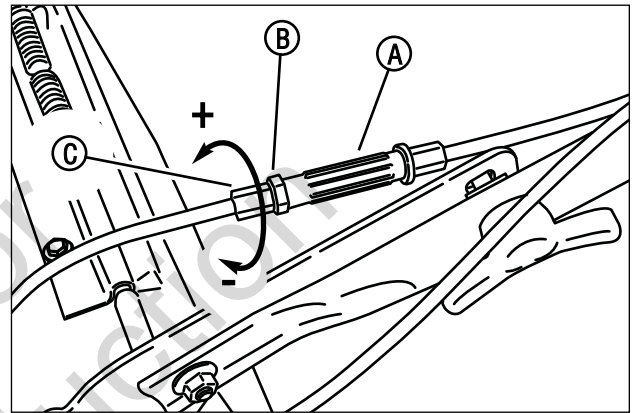

Figure 20: Adjusting the transmission spring tension
- b. To increase (+) the extended spring length, loosen the jam nut (B, Figure 20) and rotate the ferrule (C) below the adjustment turnbuckle (A), located on the lower end of the wheel drive control cable, one-half turn out from the turnbuckle. Tighten the jam nut.